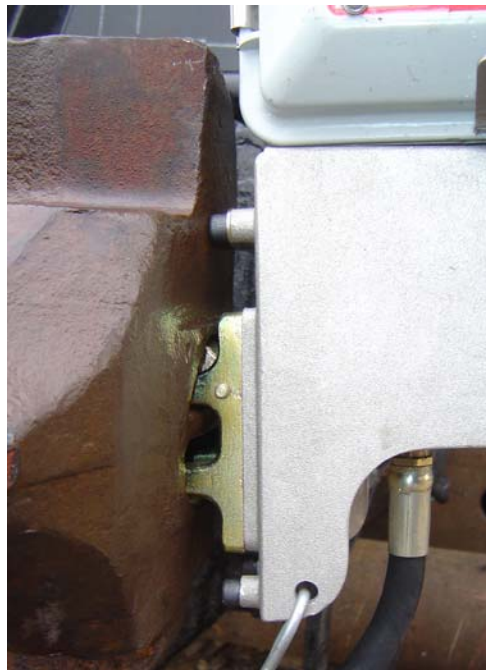

Figure 4
4. Set CEOT Clamp onto coupler with Finger extending into the upper clevis of the mounting position. Turn Coupler Clamp Wheel clockwise to secure. See Figure 4.